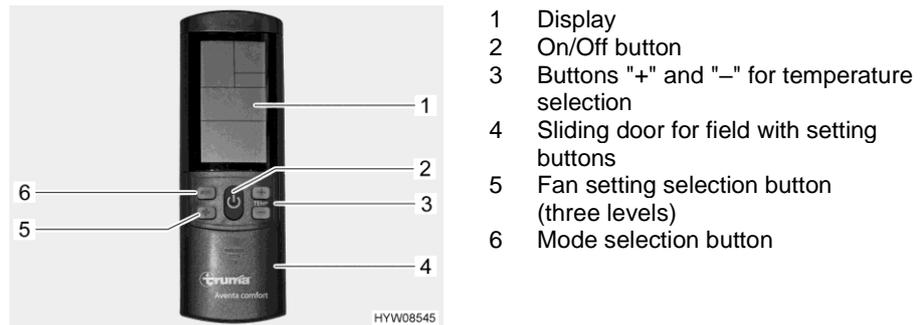

Fig. 133 Remote control (air conditioning unit)
*Switching on:* ■ Press the On/Off button (Fig. 133,2). The last settings selected are accepted.
■ Use the "+" and "-" buttons (Fig. 133,3) to set the desired temperature.
*Switching off:* ■ Press the On/Off button (Fig. 133,2). The lighting can continue to be operated.
- Press the On/Off button (Fig. 133,2).
- Press the mode selection button (Fig. 133,6) until the cooling symbol appears in the display (Fig. 133,1).
- Use the "+" and "-" buttons (Fig. 133,3) to set the desired temperature.
- Use the "🌀" selection button (Fig. 133,5) to set the desired fan level.
- Press the mode selection button (Fig. 133,6) until the heating symbol appears in the display (Fig. 133,1).
- Press the mode selection button (Fig. 133,6) until the air circulation symbol appears in the display (Fig. 133,1).
*Switching on the timer:* ■ Press the On/Off button (Fig. 133,2).